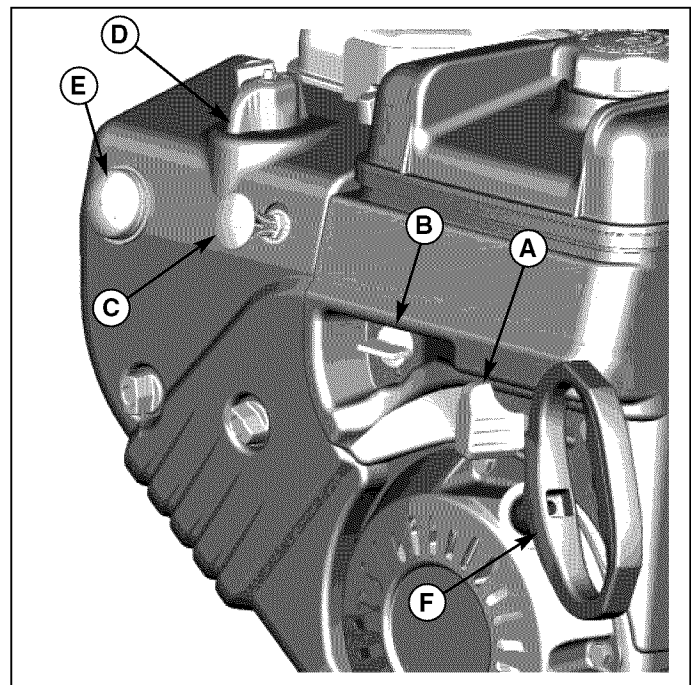

Figure 2. Start/Stop Engine - Manual
3. Move the throttle control lever (A, Figure 2) to the FAST position. Operate the engine with the throttle control lever in the FAST position.
- Turn the fuel shut-off valve (B, Figure 2), if equipped, to the ON position.
- Push in the safety key (C).
- Turn the choke control knob (D) to the choke position.
- Move the throttle control lever (A, Figure 2) to SLOW and then to the STOP position.
- Remove the safety key (C). Keep the safety key out of the reach of children.
- After the engine stops, turn the fuel shut-off valve (B) to the CLOSED position.